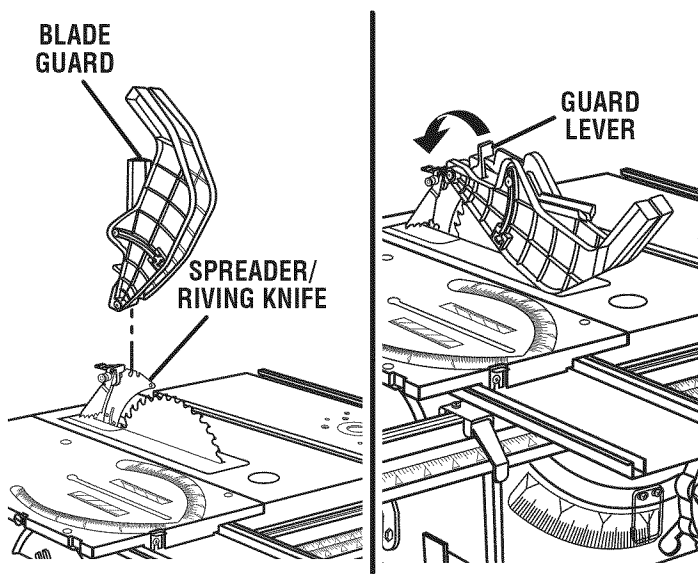

Fig. 21
- With the front of the blade guard raised, lower the back of the guard into the middle hole of the spreader/ripping knife. Push the front of the guard down until it is **parallel to the table** (see figure 21). If the blade guard is not parallel to the table, the ripping knife is not in the spreader (or "up") position.